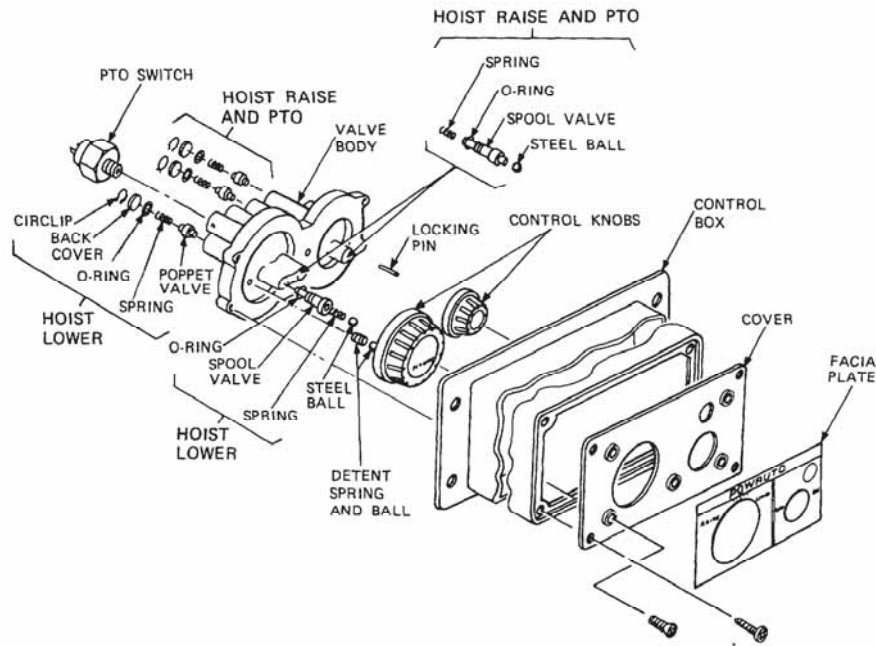

Figure 11 PTO/Hoist Control Box – Exploded View
- 29. Disassembly.** Disassemble the control box as follows (Figure 11):